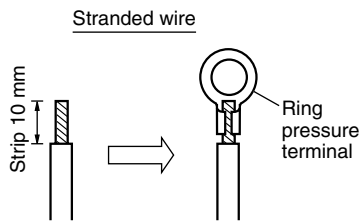

Fig. 5-7
- Cut the wire end with cutting pliers, then strip the insulation to expose the stranded wire about 10 mm and tightly twist the wire ends. (Fig. 5-7)